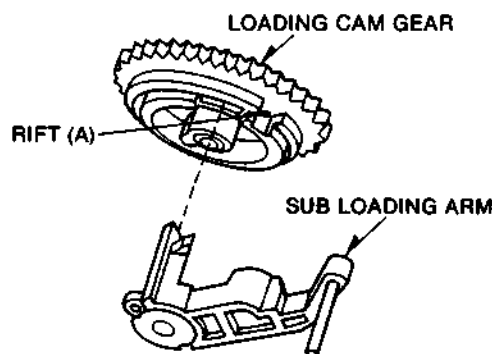

Fig.4-5
- Install loading cam gear pos. no. 142(2) so that the end of sub loading arm pos. no. 39(1) comes to rift A of loading cam gear as shown in Fig. 4-5.